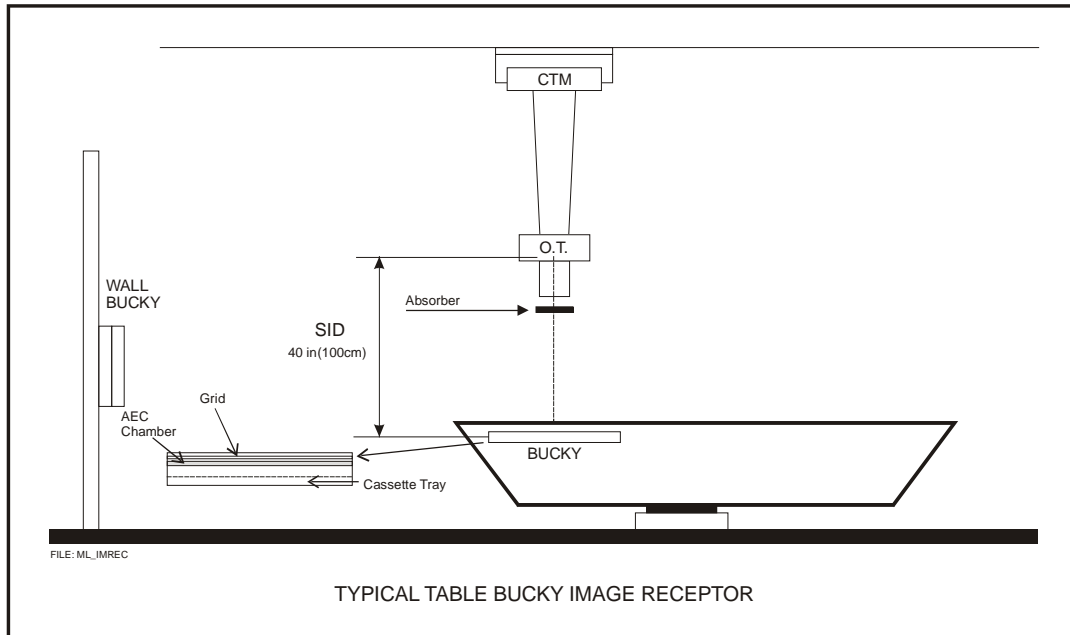

Figure 4-5: Equipment setup for table Bucky AEC calibration
1. Set up the X-ray tube stand as shown in Figure 4-5.